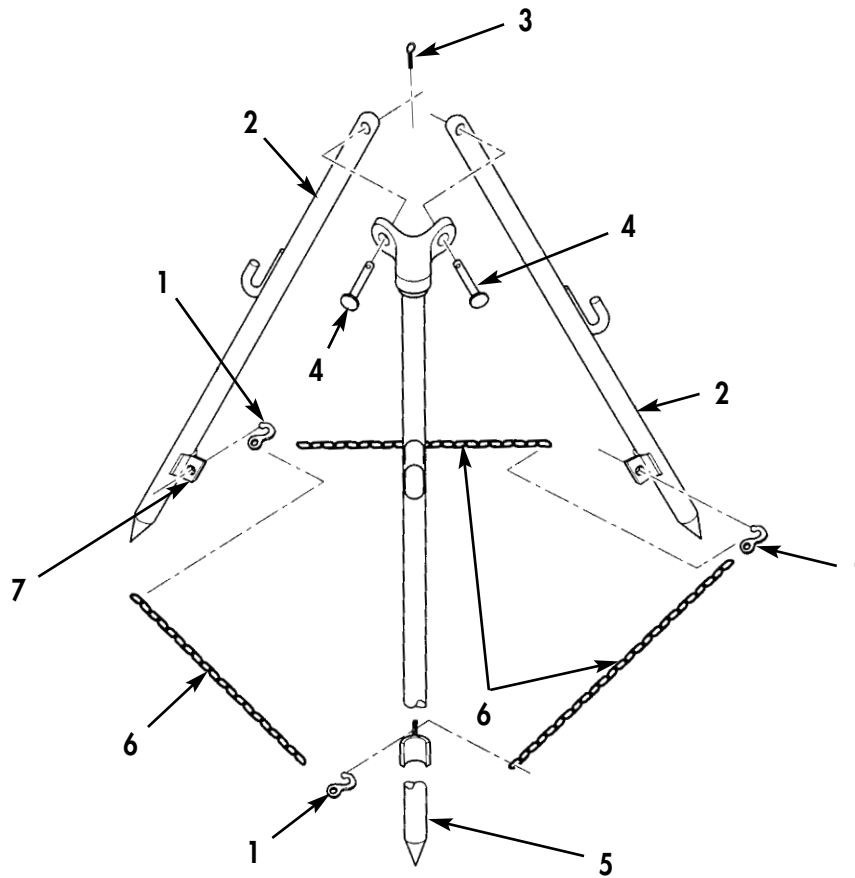

Figure 2. Assembly of Nozzle Stand.
1. Install two clevis legs (Figure 2, Item 2) on pivot leg (Figure 2, Item 5) with two straight pins (Figure 2, Item 4) and new cotter pins (Figure 2, Item 3).
2. Install three chains (Figure 2, Item 6) on eyes (Figure 2, Item 7) on two clevis legs (Figure 2, Item 2) and pivot leg (Figure 2, Item 5) with three chain hooks (Figure 2, Item 1). Secure chains (Figure 2, Item 6) by closing three chain hooks (Figure 2, Item 1).